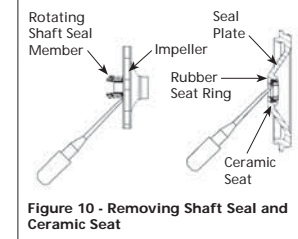

Figure 10 - Removing Shaft Seal and Ceramic Seat
- Pry the rotating shaft seal member from the impeller (Figure 10).
- Push or pry the ceramic seat free from the seal plate (Figure 10).